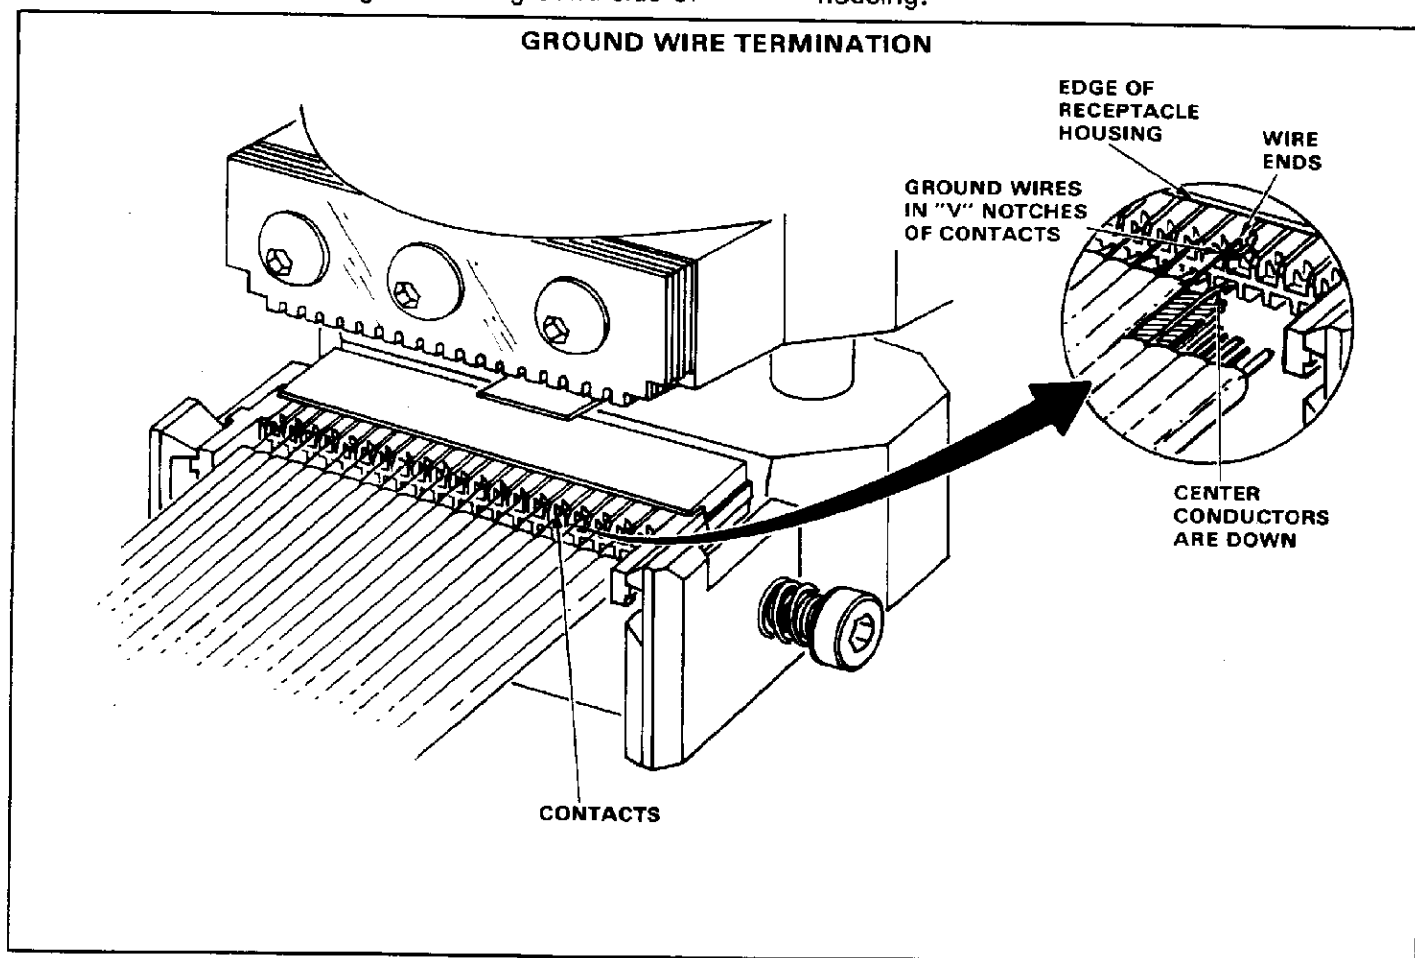

Fig. 5
2. Lay ground wires on contacts as shown in Figure 5. If necessary, use comb to align wires with "V" notches of contacts.
Center conductors are down, as shown in breakaway view of Figure 5.
3. Ensure that wires extend through at least *half the distance* between contacts and housing. See Figure 5.